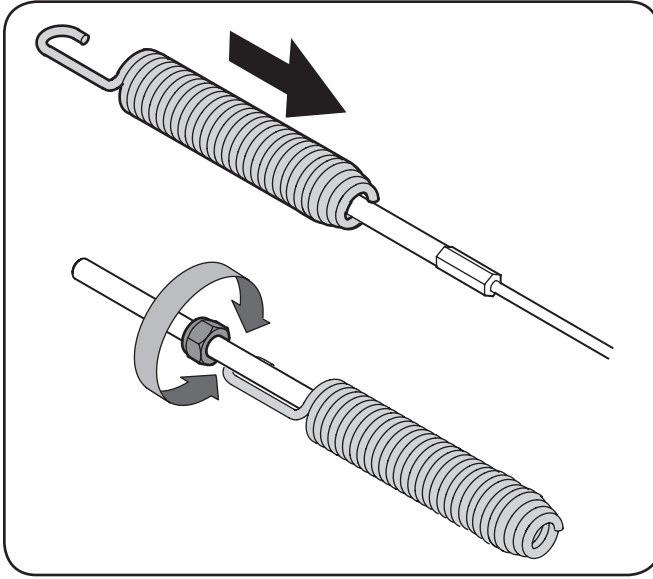

Figure 3-13
2. Slide the spring up the cable to expose the cable coupler threads and lock nut. Refer to Fig. 3-13.